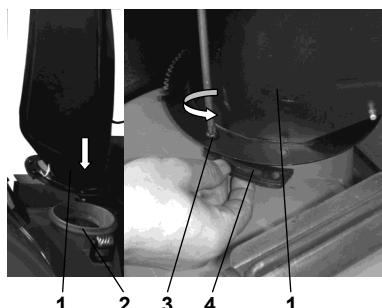

Fig. 4
4. **Mount the chute** (Fig. 4): first unscrew the chute on the bolt, place it on the chute seat, put down a fixed block to aim with a bore, and screw the fixed block with a bolt.